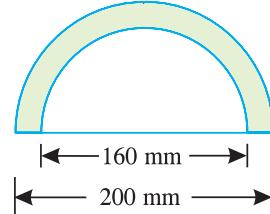

Fig. 6.32.
2. Find the centre of gravity of a semicircular section having outer and inner diameters of 200 mm and 160 mm respectively as shown in Fig. 6.32.    [Ans. 57.5 mm from the base]